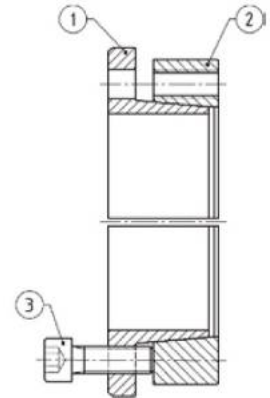

Figure 2
- Loosen all locking screws by a minimum of four (4) turns and transfer at least three (3) screws into push-off threads in order to keep Parts 1 and 2 separated during assembly (see Figure 2).
(Refer to Figure 2)